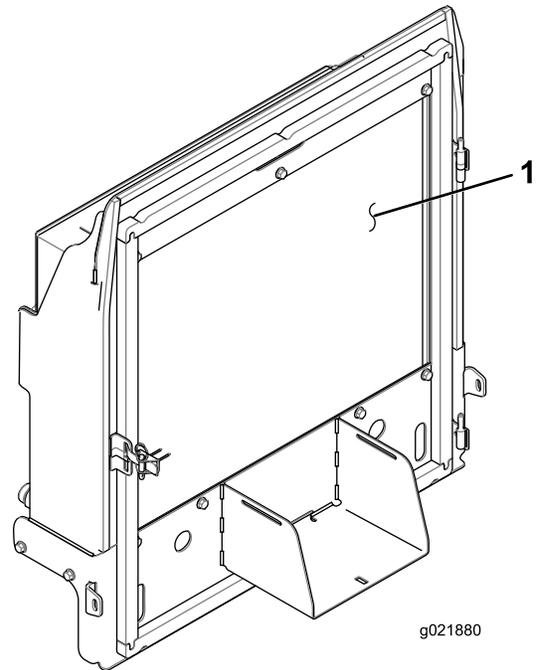

Figure 83
4. Thoroughly clean both sides of the and the radiator/oil cooler with compressed air (Figure 83).